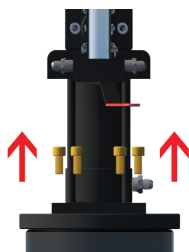

Figure 15
2. Remove eight (8) 1/2" socket-head cap screws from the base of the ram at the top of the Hydra-Stop housing (see Figure 15).